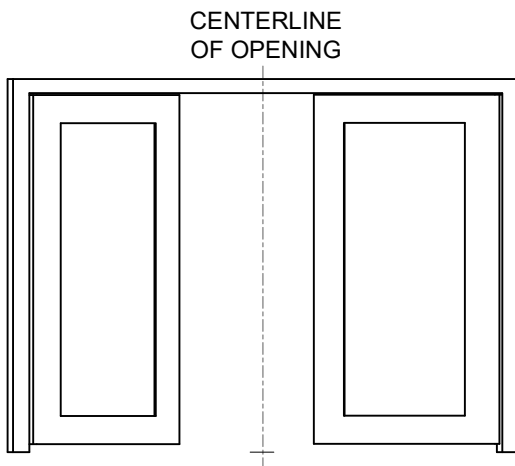

FIG. 1
1. Mark the center of the width of the door opening at the soffit and at the floor (see Fig. 1).